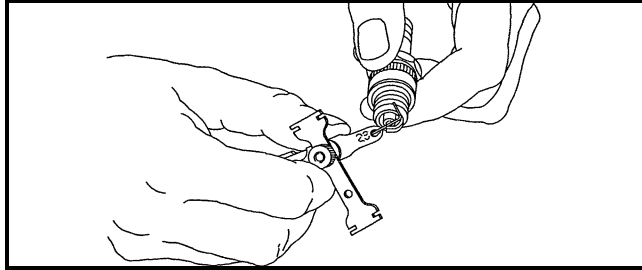

Figure 4.3: Checking the spark plug electrode gap
3. Check the spark plug electrode gap using a thickness gauge. Adjust the gap to 0.76 mm bending the earth electrode carefully. See figures 4.3 and 4.4.